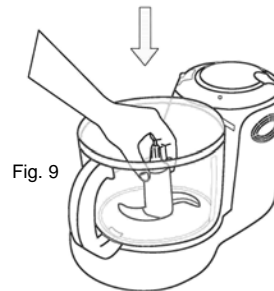

Fig. 9
- Fit the dough blade over the spindle and press firmly into place. (Fig. 9)